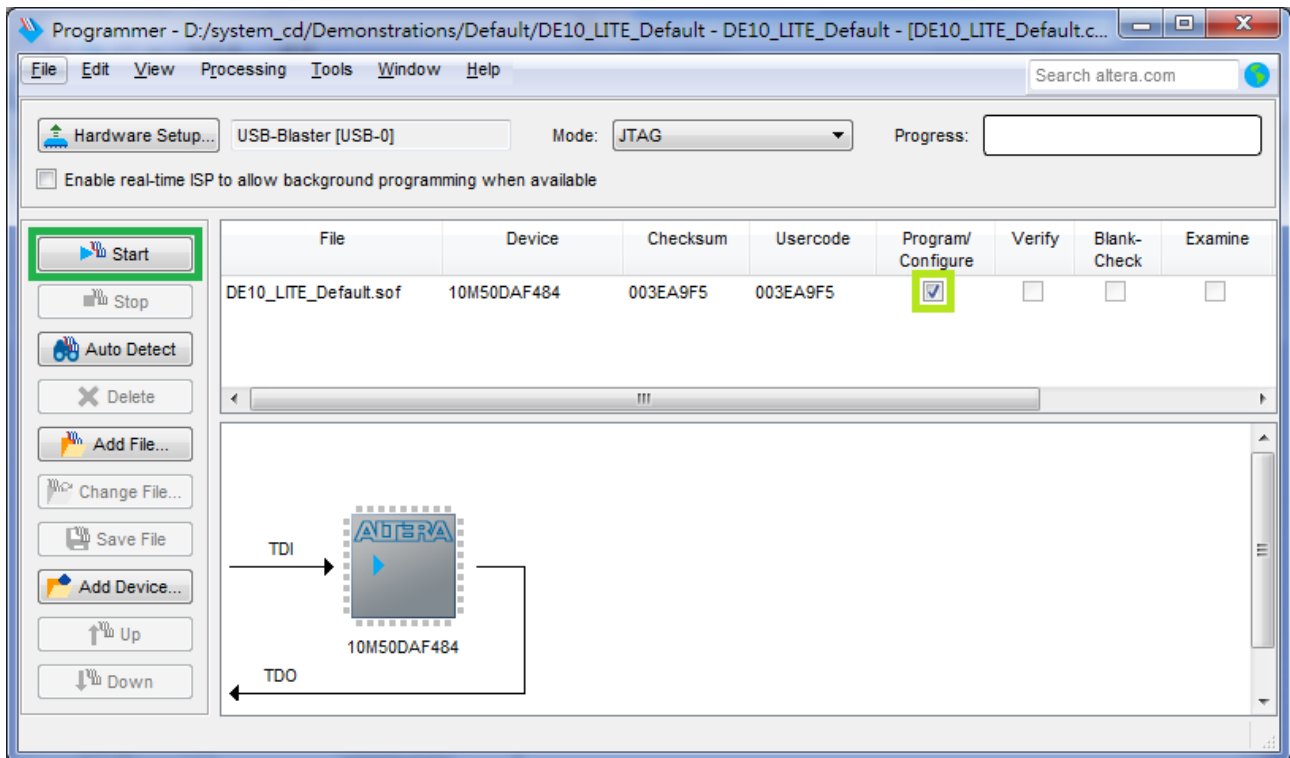

Figure 3-9 Program .sof file into the FPGA device
9. Click “Program/Configure” check box and then click “Start” button to download the .sof file into the FPGA device, as shown in **Figure 3-9**.